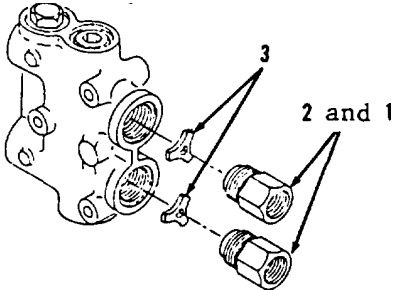

Figure 10-115.
- 12. Install two chokes (3) and items 2 and 1 as an assembly (Figure 10-115). Tighten two adapters (1) to 55 ft-lb torque.